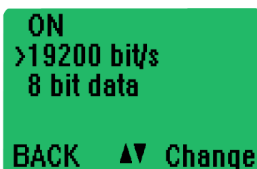

Figure 75: Baud Rate Setting
3. Press the *down* arrow soft key to move the cursor to the next setting on the submenu. It is for the currently set baud rate (see Figure 75).